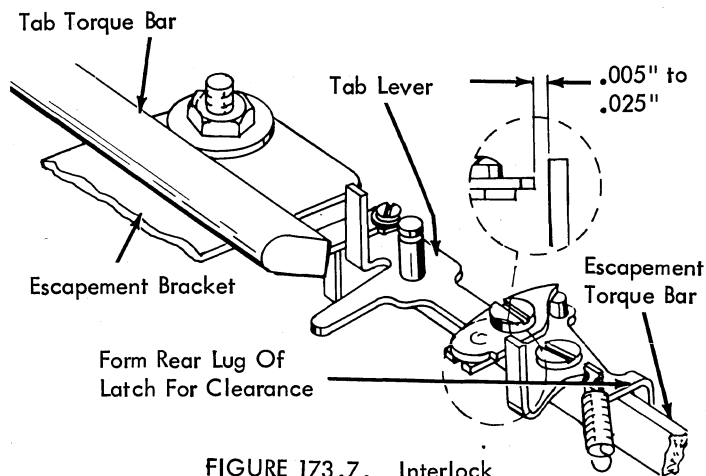

FIGURE 173.7. Interlock
10. Carrier Return/Tab Interlock (Fig. 173.7) - With the carrier return clutch latched, the upright lug of the tab latch should clear the end of the tab lever pawl by .005" to .025". The rear lug of the tab latch should be formed forward or back to obtain this condition.